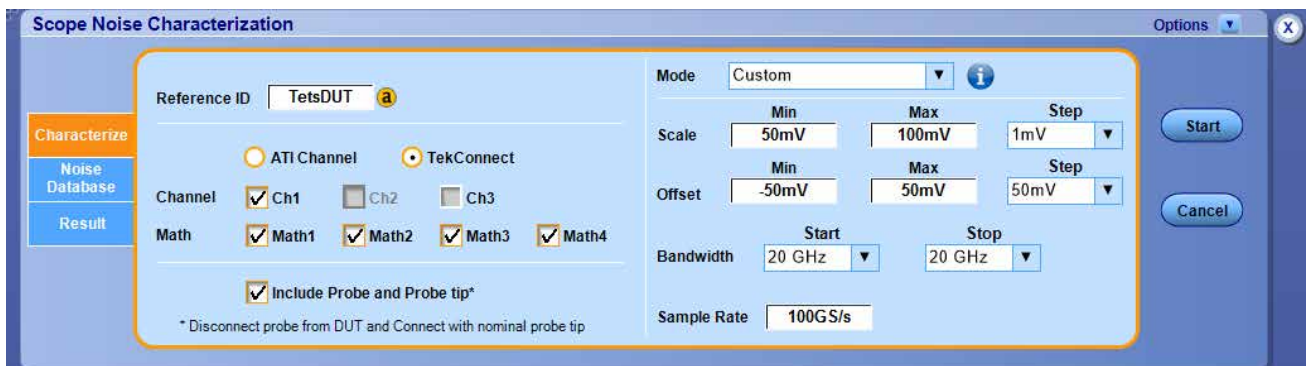

Figure 12: Scope Noise Characterization application with Characterize tab selected
7. Go to the **Characterize** tab for more information, refer to Figure 12 on page 22.